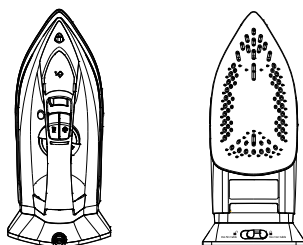

Figure 2
2. Move Lock/Unlock switch to the locked position . Lift the iron by the handle to ensure that it is securely locked onto the base (Figure 2).